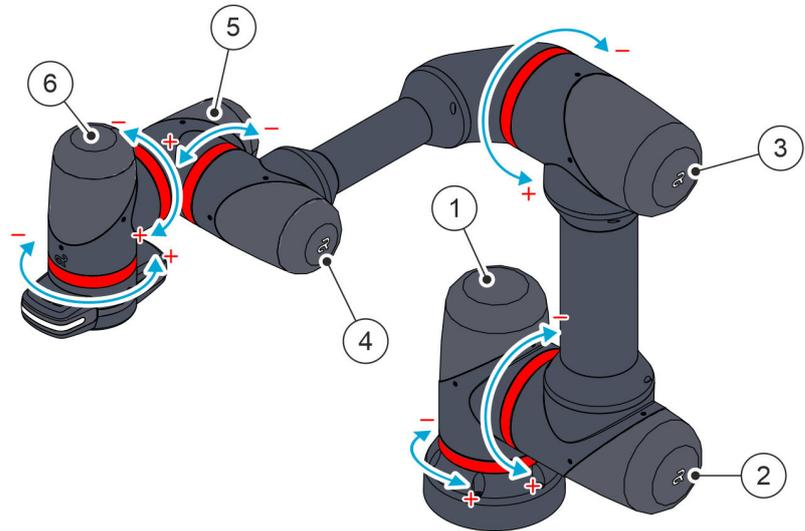

Fig. 3 Overview of robot axes
① Axis 1
② Axis 2
③ Axis 3
④ Axis 4
⑤ Axis 5
⑥ Axis 6
The robot has a total of six axes Fig. 3 / ①–⑥, which are connected to each other in a kinematic chain.